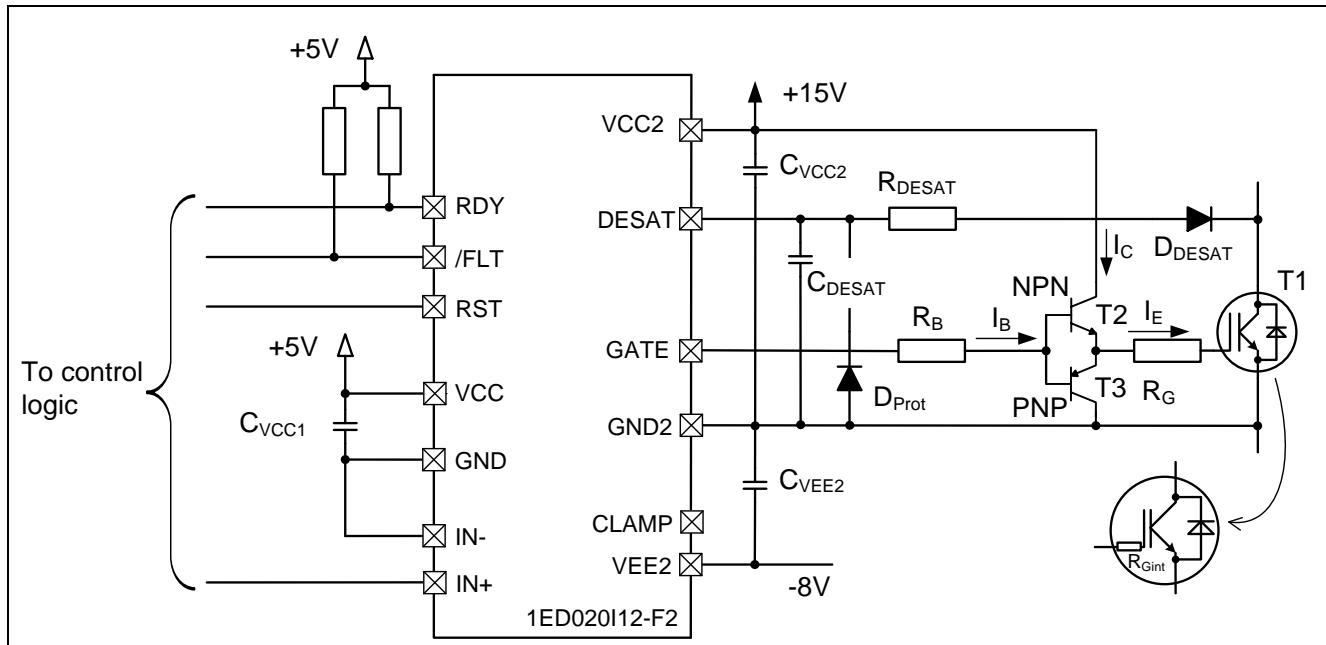
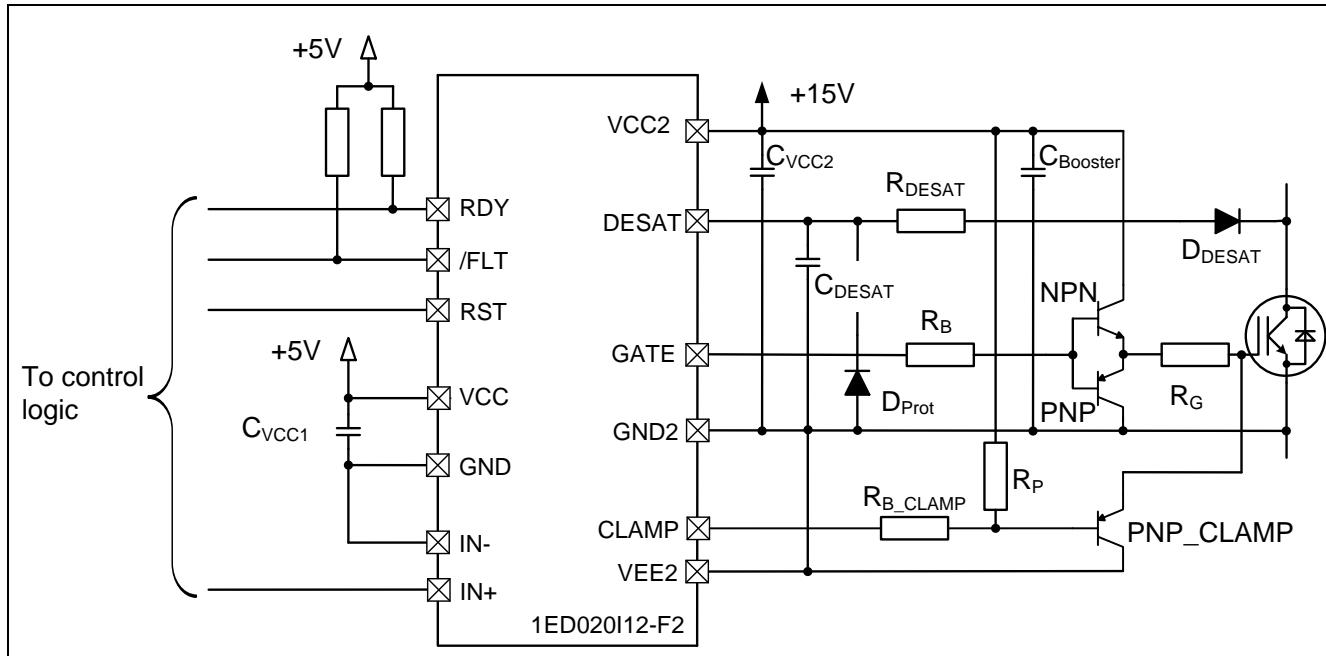

Figure 1 Example circuit for driving large IGBT modules (bipolar supply for driver IC)
Figure 4 Example circuit for Active Miller Clamp feature with external booster (unipolar supply for driver IC)
A typical external booster circuit can normally be built with a discrete NPN/PNP complimentary output stage which is added to the output of a driver IC. One possible implementation is shown in Figure 1. The NPN and PNP booster transistors should be fast switching and have sufficient current gain to deliver the desired peak output current. The circuit, seen in Figure 1, depicts the output external booster being used with an Infineon 1ED020I12-F2 driver IC.
- 1) The Active Miller Clamp feature of the 1ED020I12-F2 family can be used together with external booster (mainly in the unipolar supply case). When the Miller current is larger than the maximum clamping capability of driver IC (2A for 1ED020I12-F2), an additional sinking path will be needed along the clamping path (between gate of IGBT and CLAMP pin). The booster transistor itself also has sinking capability, but due to the exist of the gate resistor (R_G), this sinking capability is probably not enough. Figure 4 gives an example about how to implement this additional sinking path. Here the PNP_CLAMP transistor should have the same current capability as the PNP transistor of the external booster. R_{B_CLAMP} is the base resistor for the PNP_CLAMP transistor, and the sizing is according to PNP_CLAMP transistor. R_P is used as a pull-up resistor for safety reasons, and the recommended value is in $10\text{k}\Omega$ range (to limit the current which runs through R_P in mA range to save power).
- 2) It is possible when the bipolar supply is used that $VEE2$ is not at same potential as $GND2$ but has a negative value. In this situation, the Active Miller Clamp feature is normally not necessary. The CLAMP pin can simply be left open (as depicted in Figure 1). The resistance values of R_G and R_B need to be adjusted accordingly since the voltage step ($\Delta V_{out} = VCC2 - VEE2$) is changed.
- 3) If the bipolar supply needs to be used together with the Active Miller Clamp feature, the additional sinking path (PNP_CLAMP and R_{B_CLAMP} as shown in Figure 4) needs to be adjusted accordingly with different $VEE2$ value. Note that this configuration is possible since the CLAMP pin is internally reference to $VEE2$ for Infineon 1ED driver IC family.
- 6) The power supply and the decoupling capacitor C_{VCC2} (as seen in Figure 1) need to be adjusted according to the external booster to ensure the quality of supply voltage, which should be enough to support the three main parts of the power consumption: the driver IC, the load (IGBT) and the external booster. Alternatively a separate decoupling capacitor solution can be used to optimize the layout: C_{VCC2} closes to the driver IC and $C_{BOOSTER}$ closes to external booster transistors (as shown in Figure 4).
To better understand it thoroughly, consider the calculations in the following example with real data. Using Figure 1 as the reference design, the 1ED020I12-F2 is the driver IC. The Infineon 600A IGBT module FZ600R12KP4 is used as the load, which can be driven properly by a 10A peak current. Now for the external booster, the ZXTN2031F [3] is the NPN transistor and ZXTP2025F [4] is the PNP transistor, which are paired transistors to each other and have similar parameters.
In case the unipolar supply and the Active Miller Clamp features are used as depicted in Figure 4, the calculation needs to be adjusted by the new voltage step ($\Delta V = VCC2$). The sizing procedure and the calculation of the clamping transistor PNP_CLAMP is similar to the PNP transistor of the external booster.